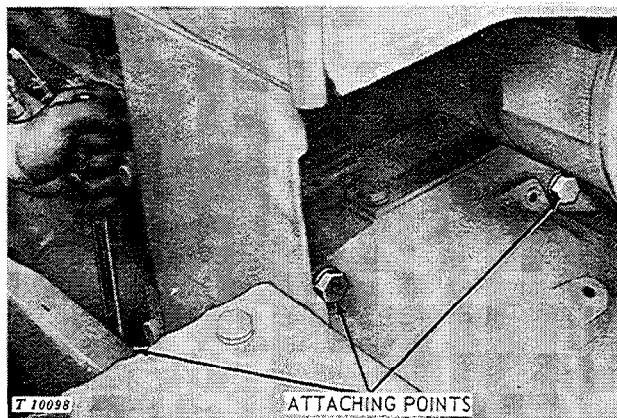

Fig. 20-5-6—Engine Attaching Points
18. Remove two cap screws under cowl support attaching clutch housing to engine (Fig. 20-5-6).